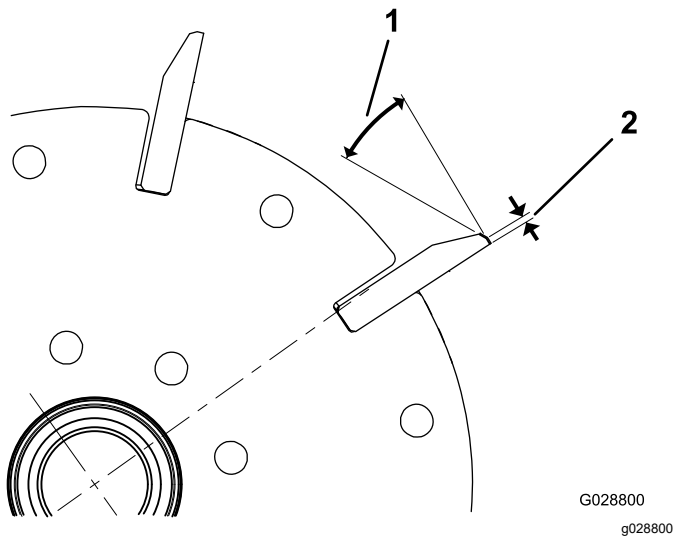

Figure 40
1. Apply a 30° relief grind on all reel blades until the land width is 1.3 mm (0.050 inch) wide (Figure 40).